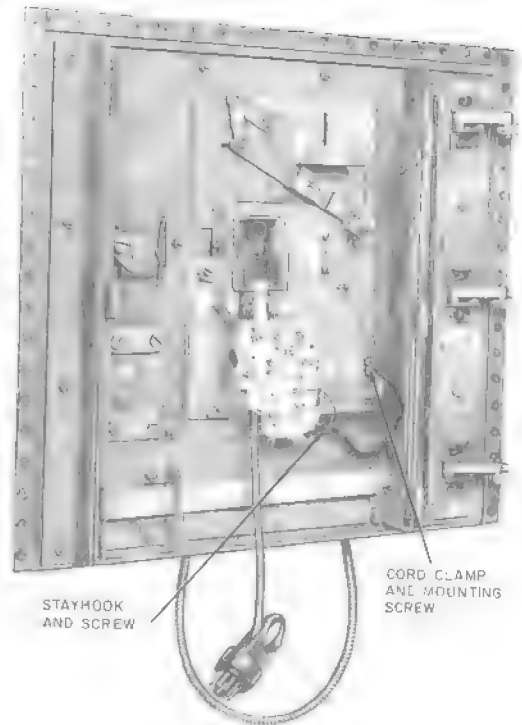

Fig. 19—Location of Armored Cord and Mounting
2.28 Refer to Fig. 19 for routing and securing handset cord in 2-type coin telephone sets.